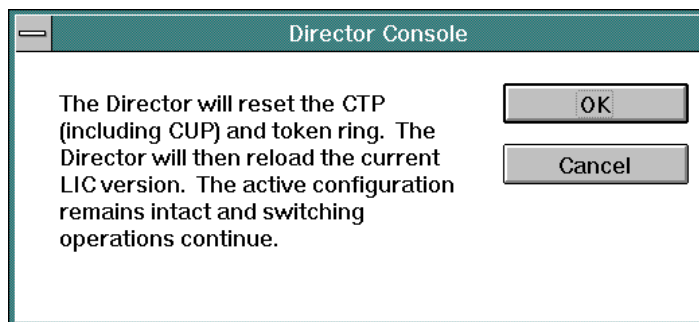

Figure 193. Reset CTP Card Dialog Box
8. Select the *IPL Director* option from the *Utility* menu. The following dialog box appears (Figure 193).